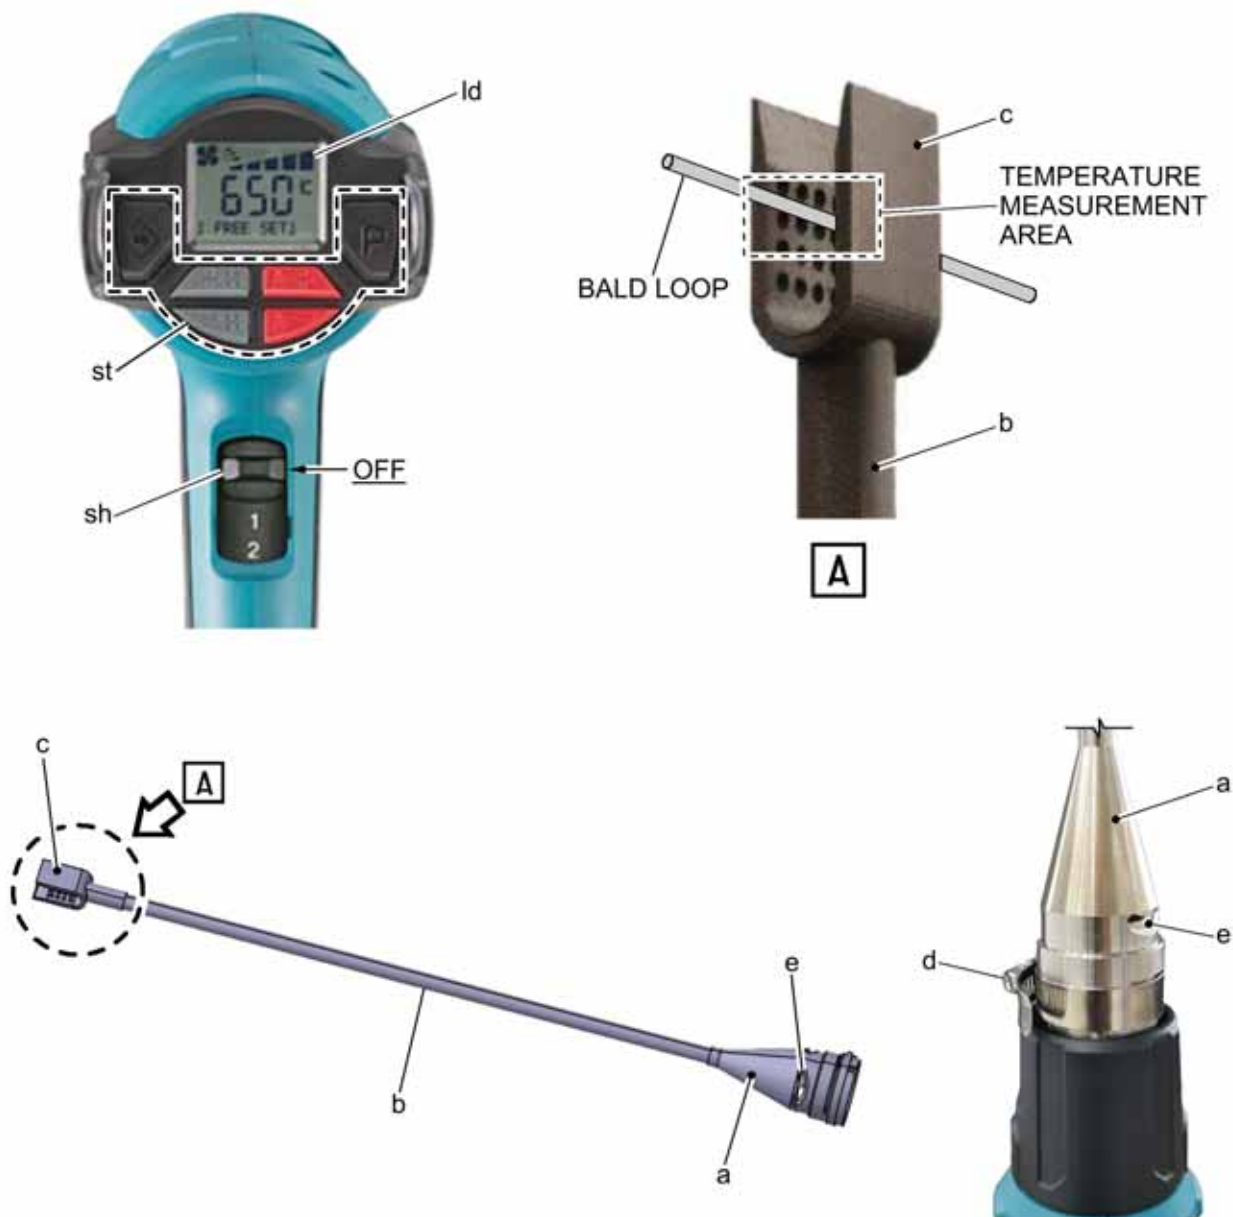

Figure 2: USE OF HOT AIR GUN WITH NARROW BLOWER NOZZLE
- (7) Slide the switch (**sh-fig. 2**) of the hot air gun with the narrow blower nozzle (**c-fig. 2**) to position "2" to begin heating.
- (8) Adjust the temperature of the hot air gun with narrow blower nozzle as follows:
- (b) Set the hot air gun set point temperature to a minimum of 400°C (752°F), using the set of buttons (**st-fig. 2**) and LCD displays (**ld-fig. 2**) (refer to the instruction manual delivered with the tool case).
NOTE: The temperature probe must be positioned at the center of the blower nozzle (**c-fig. 2**), as shown on **fig. 2**.
WARNING: THE AIR COMING OUT OF THE HOT AIR GUN INTERFACE (A-FIG.2) IS VERY HOT. BE CAREFUL NOT TO POINT THE HOT AIR OUTLETS (E-FIG.2) AT YOUR FACE.
NOTE 1: For each point tested, the BALD loop must be as close as possible to the center of the nozzle airflow, as shown on **fig. 2**.
- (10) Adjust the hot air gun temperature and test all the other test points (refer to steps 2.C.(8) and 2.C.(9)).
- (11) Once all the test points that require the narrow blower nozzle have been checked, slide the switch (**sh-fig. 2**) to the OFF position and stow the hot air gun in a safe location to cool down.